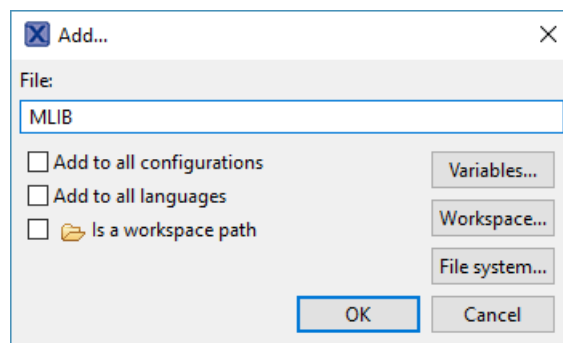

Figure 1-10. Library file inclusion
13. Type the following into the File text box (see Figure 1-10): `:mlib.a`